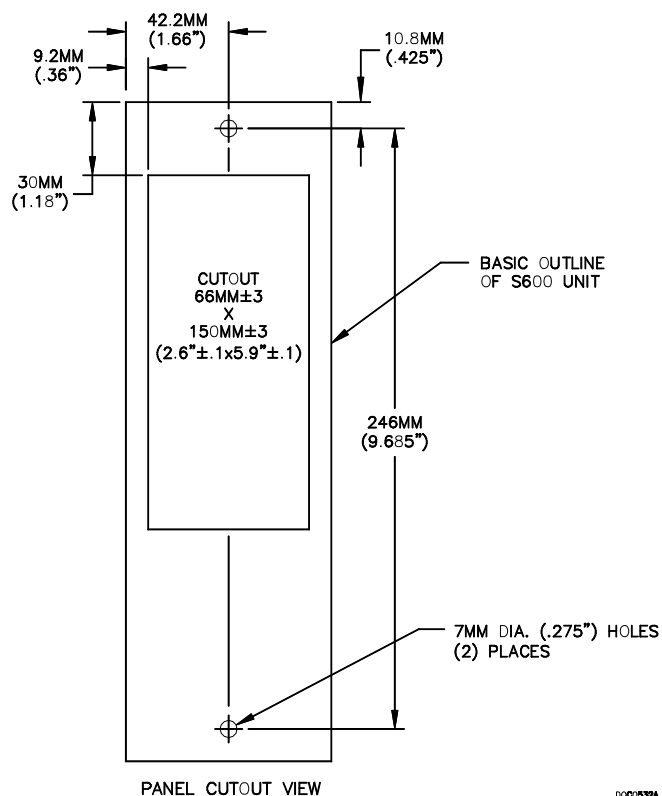

Figure 2-6. Panel Cutout Dimensions
2. Refer to Figure 2-6 and Table 2-1 for position details for two 7 mm (0.276 in) holes and a cutout. The panel cutout should be rectangular for each S600. Allow a tolerance of ± 3 mm (0.12 in) on each axis.